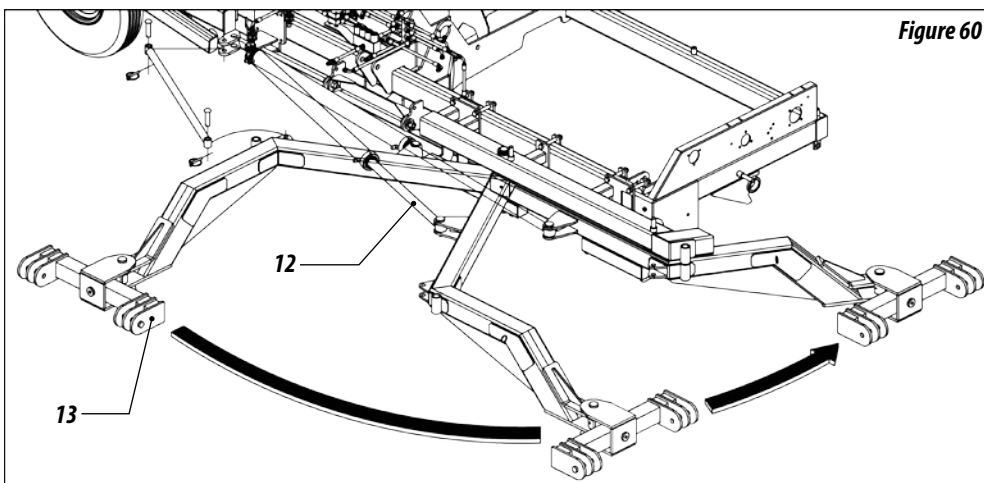

Figure 60
08 - Activate the opening piston (12) through the hydraulic control of the tractor, observing the displacement of the header (13) according to figure 60.